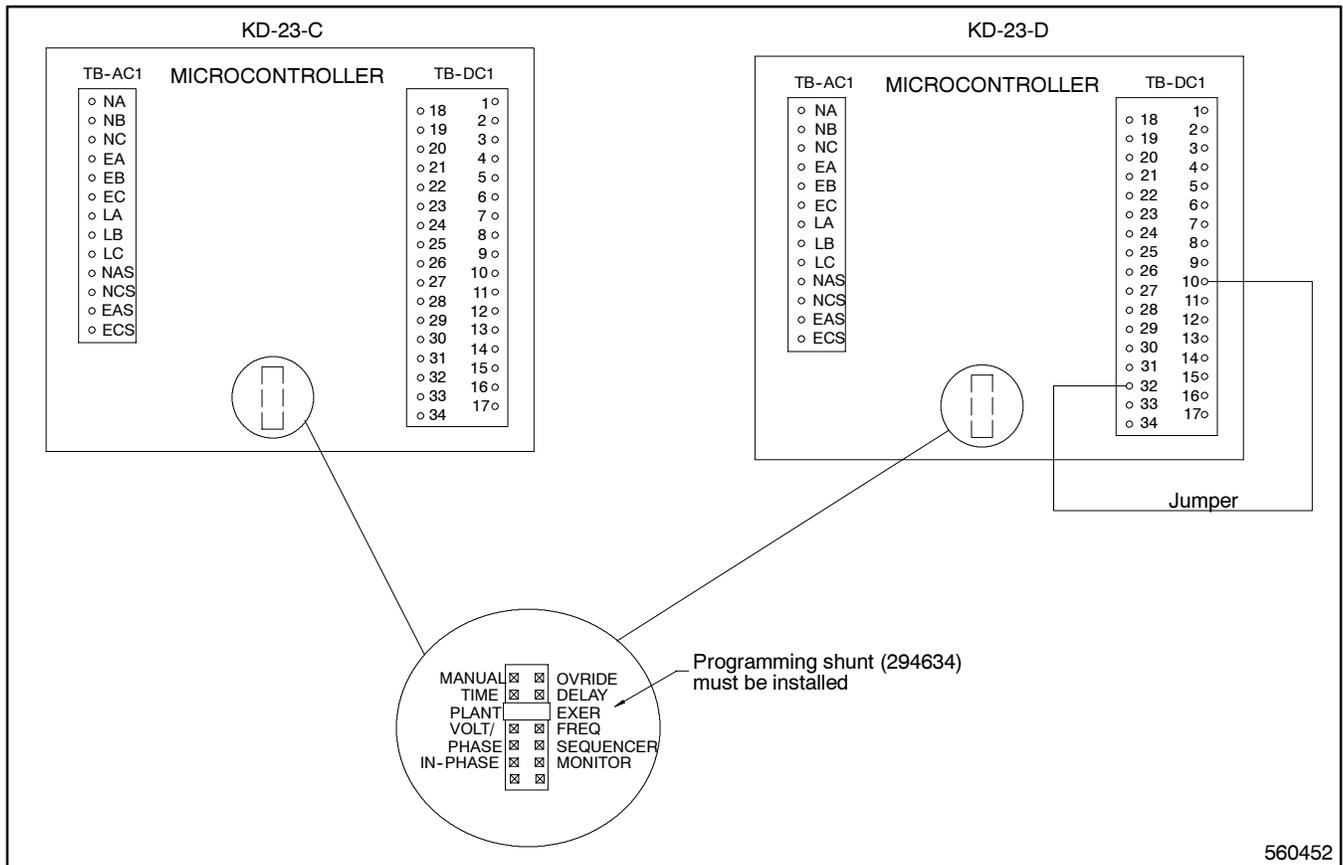

Figure 4-25. Wiring Diagram—Plant exerciser, option KD-23-C and KD-23-D
- KD-23-C. Allows test of the engine generator set only. The generator set will start and run under no load. See Figure 4-25 for connections.
- KD-23-D. Allows a complete test of the emergency source. The exerciser simulates a loss of normal power. The generator set starts and the transfer switch transfers the load to the generator set. See Figure 4-25 for connections.
Option KD-23-C (no-load exerciser) and KD-23-D (loaded exerciser) are wired differently. In order to enable KD-23-D, TB-DC1-10 must be jumpered to TB-DC1-32. See Figure 4-25.